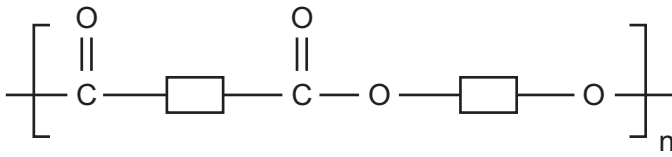

Fig. 4.1
- 4 The repeating unit of some polymers has the structure shown in **Fig. 4.1**.